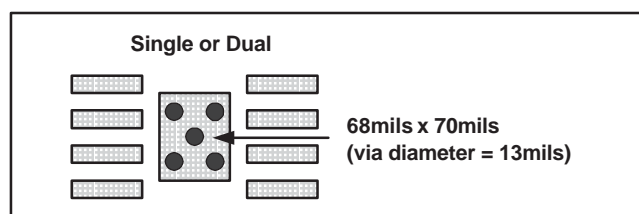

Figure 4. PowerPAD PCB Etch and Via Pattern.
1. Prepare the printed circuit board (PCB) with a top-side etch pattern, as shown in Figure 4. There should be etch for the leads as well as etch for the thermal pad.